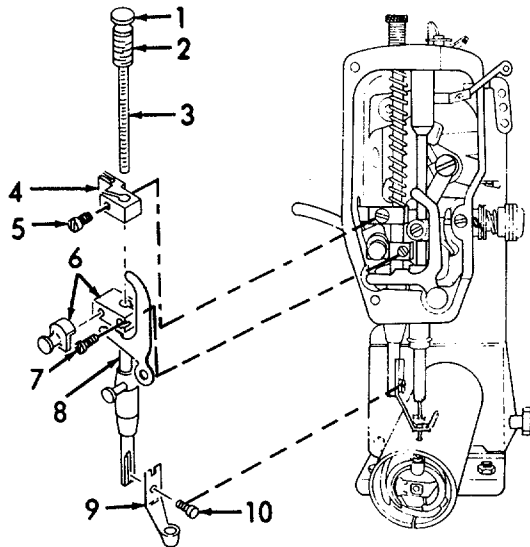

Figure 6-110. Presser Bar, Installation.
- (4) Refer to Figure 6-110. Install presser foot (9) on presser bar (8) with screw (10).
- (5) Install presser bar (8) through bottom bushing.
- (6) Position presser lifter block assembly (6) and presser bar guide assembly (4) in place and insert presser bar up through both until presser bar is 1/8-inch below the top of presser bar guide assembly.
- (7) Tighten presser bar guide assembly clamp screw (5).
- (8) Insert spring rod (3) into presser bar (8).
- (9) Install tension spring (2) over spring rod (3) and install presser bar tension thumbscrew (1).